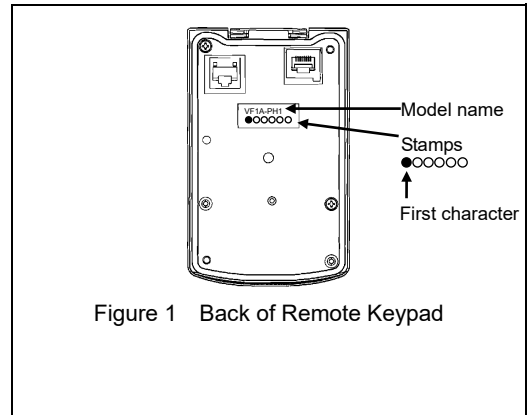

Figure 1 Back of Remote Keypad
- (1) The package contains a remote keypad and its installation manual (this book).
- (2) There have been no problems during transportation. In particular, no parts are damaged or have fallen out of place nor are there any dents on the body.
- (3) The model name "VF1A-PH1" is inscribed on the back of the remote keypad as shown in Figure 1.
- (4) In case of using this keypad for the Doesa VF1A series, check the stamps under the model name, as shown in Figure 1.